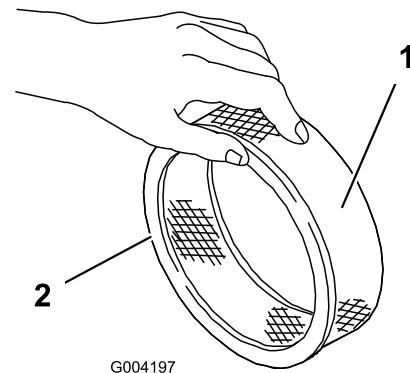

Figure 45
5. Inspect the paper filter for tears, an oily film, and damage to the rubber seal (Figure 45).
1. Carefully slide the foam pre-filter onto the paper filter (Figure 45).